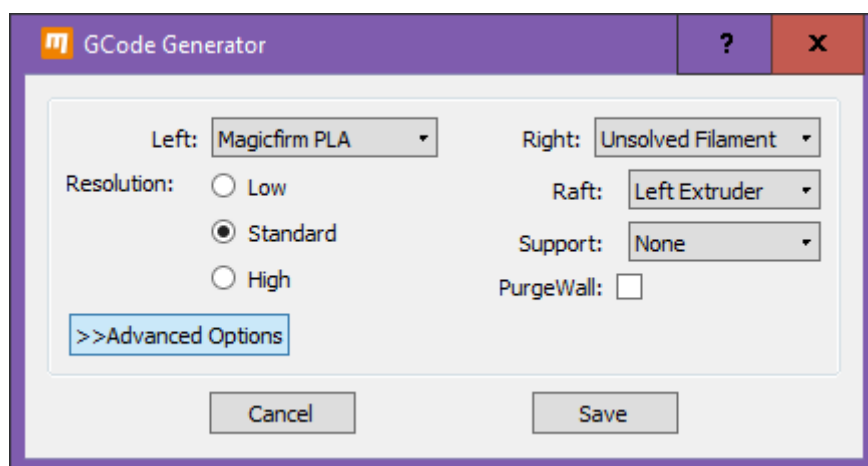

Figure 18 : GCode Generator Dialog Box
8. Click the **Settings** button on the toolbar. The GCode Generator dialog box is displayed (see Figure 18).